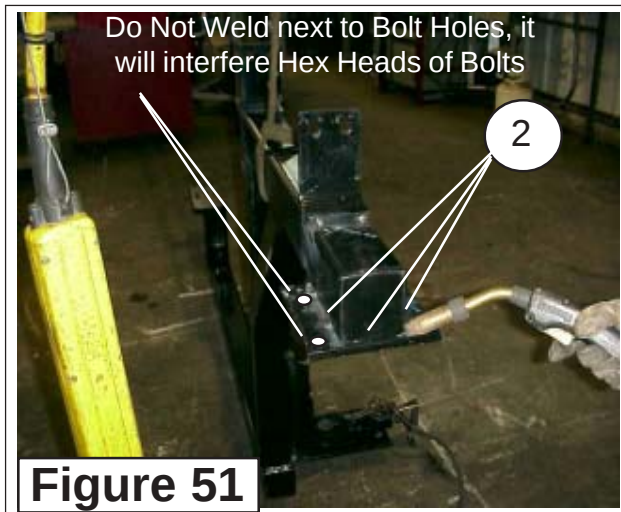

Figure 51
2. Weld Front Mount Plate. Weld down each side between Bolt Holes. Do not Weld to where the Weld will interfere with the Hex Head of Bolts when they are installed. Also weld across the Front of the Mounting Pad. (See Figure 51, 55 & 56)